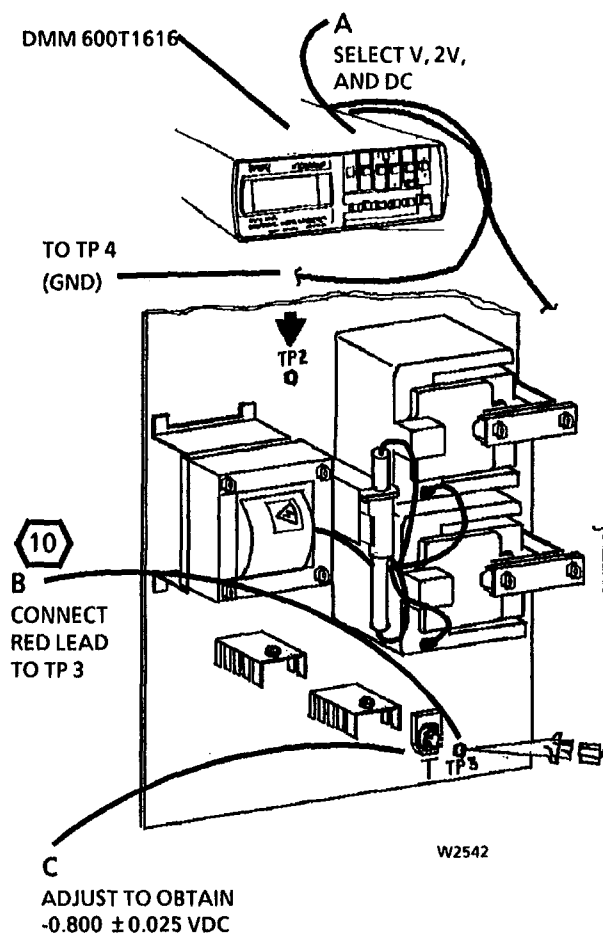

Figure 5. Adjust the Transfer Corotron
12. (Figure 5): Adjust the transfer corotron voltage.